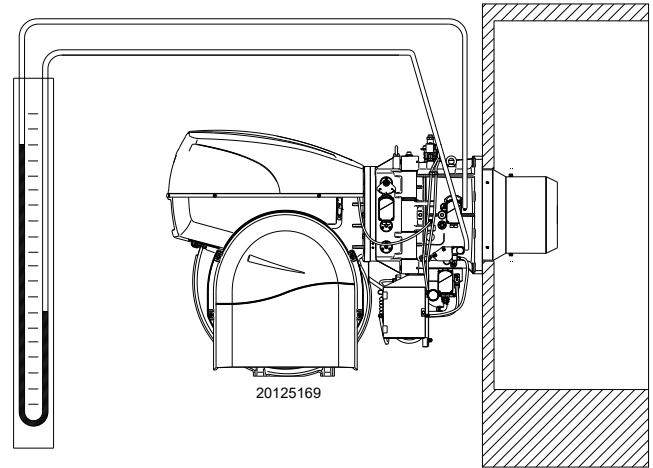

Fig. 38
- Fit a U-type pressure gauge or a differential pressure gauge (Fig. 38), with socket (+) on the gas pressure of the pipe coupling and (-) in the combustion chamber.
The arrival of gas at the sleeve is indicated by the U-type manometer (Fig. 38).